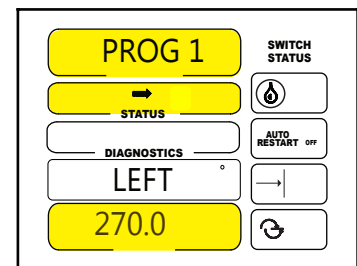

Figure 57-2
- Set left angle of sector and the direction. See figure 57-2.